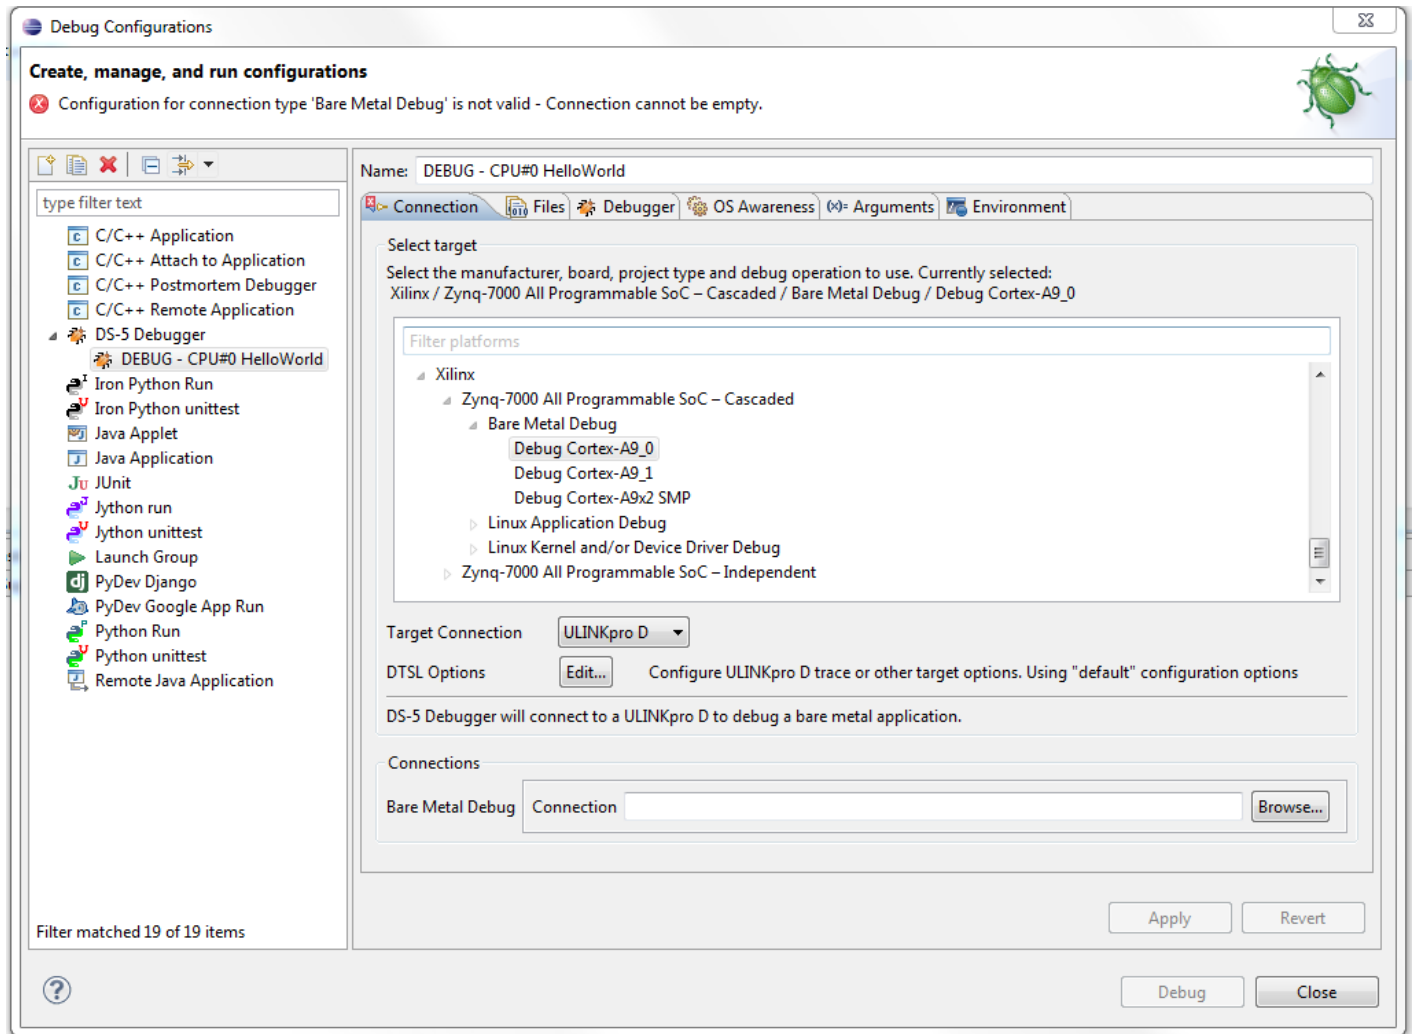

Figure 9: Debug Configuration Window, Connection Tab
5. In the Debug Configurations window (shown in Figure 9, below) expand the **DS-5 Debugger** entry and select the launch configuration provided for your reference. This assumes you wish to debug code built for CPU#0 on a target configured in Cascade JTAG mode.